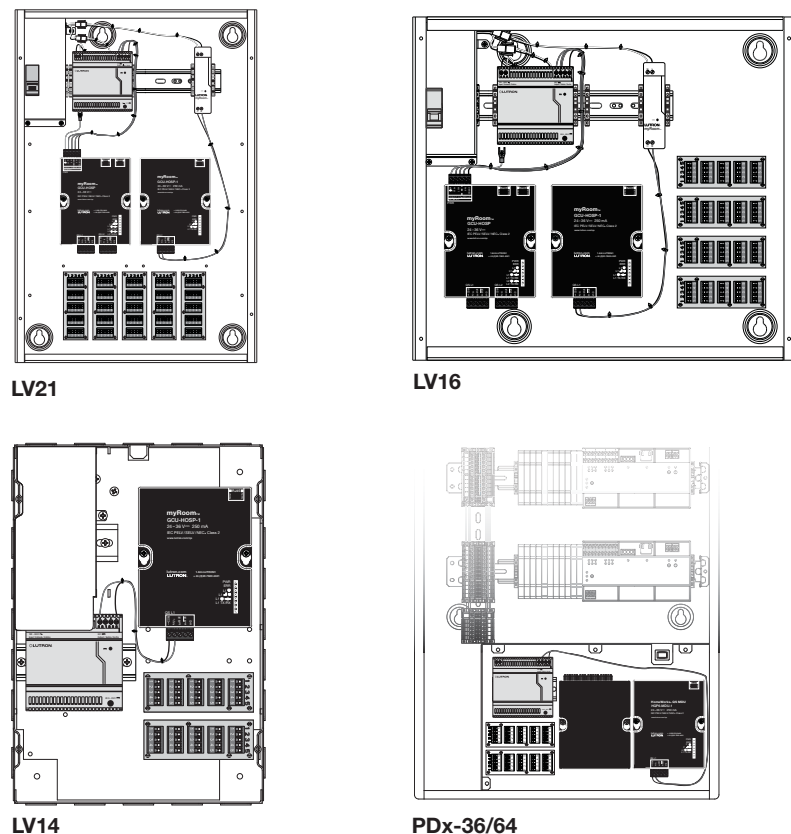

Figure 2 – Power Wiring
- 3. Connect the Guestroom Control Unit's ground wire (GCU-HOSP only):** Connect the pre-stripped end of the ground wire (included) to terminal 5 (⚡) of the PWR terminal block. Connect the spade lug end of the wire to the panel using the included serrated screw as demonstrated in the LV21 in **Figure 2**.